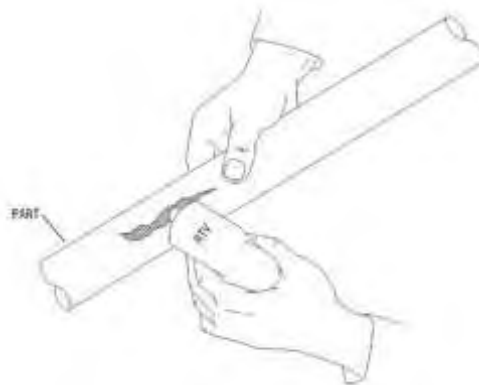

Figure 222
- (d) Leaving the damaged area open, fill the damaged area with RTV-106 or equivalent sealant. Refer to Figure 222. Do not permit bubbles or bare spots.